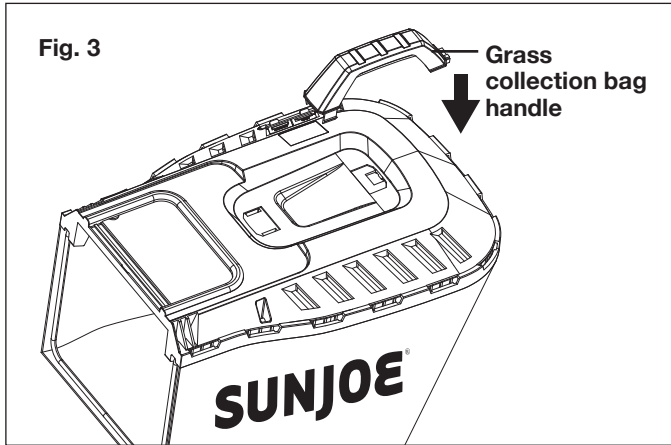

Fig. 3
2. Insert the grass collection bag handle into the holes on the top of grass collection bag until it clicks in (Fig. 3).